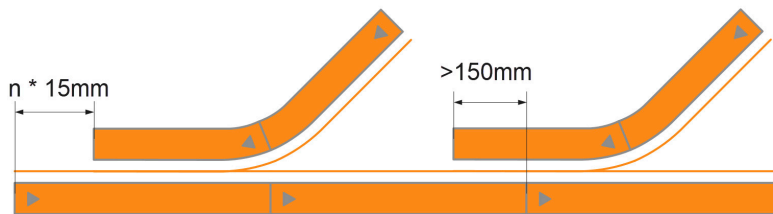

Figure 4: Positioning a diverter
- Due to the coil arrangement, the offset of segment transitions should always be a multiple of 15 mm ($n * 15 \text{ mm}$). If this is not the case, the shuttle may change back and forth spontaneously (see Fig. 4 "Positioning a diverter").
- If there is a segment transition in the diverter area, it must be at least 150 mm away from the segment end of the curve segment so that the track does not change spontaneously (see Fig. 4 "Positioning a diverter").